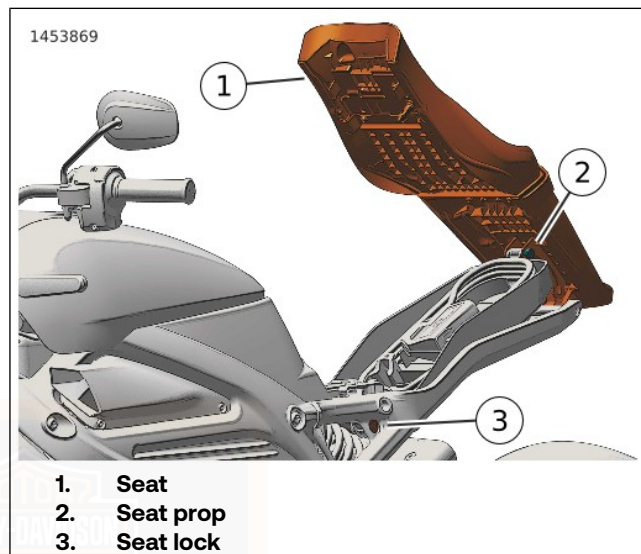

Figure 51. Seat
1. See Figure 51. Open seat.
- a. Insert key into seat latch (3) and turn clockwise.
- b. Lift front of seat (1).